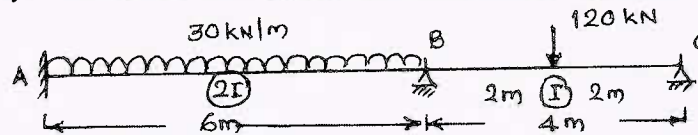

Fig.Q7
- 7 Analyse the continuous beam shown in Fig.Q7 by flexibility method using system approach. Support B sinks by 5 mm sketch BMD, SFD and elastic curve. Take $EI = 15 \times 10^3 \text{ kN-m}^2$.